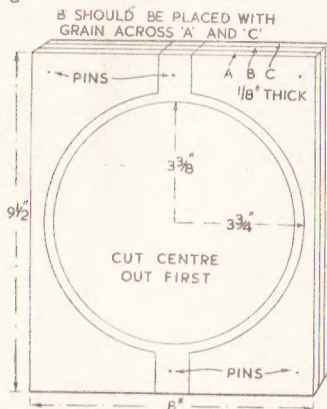

Fig. 1—Marking the boards
The pieces (A), (B) and (C) are pinned together temporarily and the shape at Fig. 1 cut out. They are then separated and marked so they can be re-assembled later in exactly the same positions.